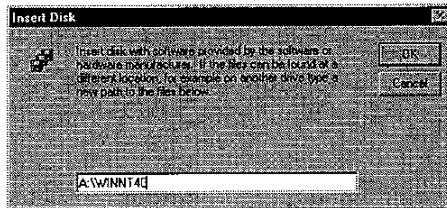

Figure 28. Insert Disk
- step5. Insert the driver diskette into drive A: (or B:) and then type A:\WINNT40 (or B:\WINNT40) as in Figure 28